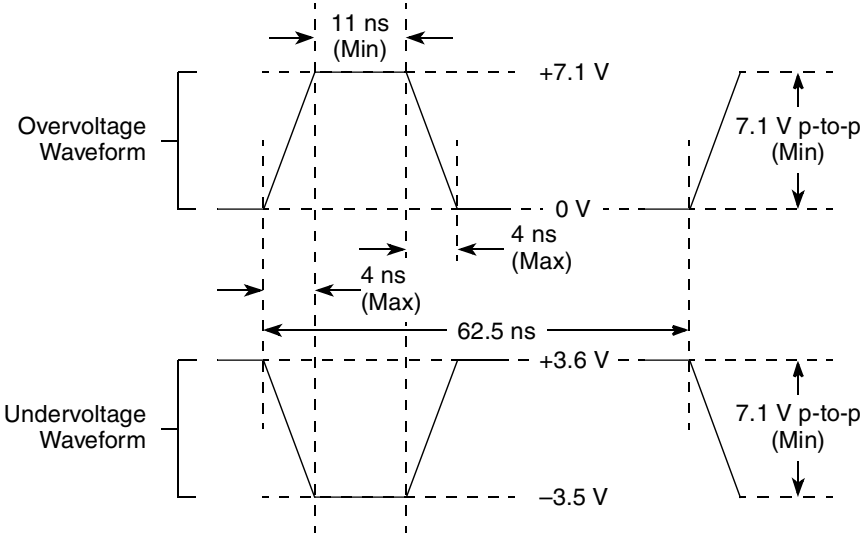

Figure 4. Maximum AC Waveforms on PCI interface for 3.3-V Signaling
- $OV_{IN}$  on the PCI interface may overshoot/undershoot according to the PCI Electrical Specification for 3.3-V operation, as shown in Figure 4.
Figure 4 shows the undershoot and overshoot voltage of the PCI interface of the device for the 3.3-V signals, respectively.